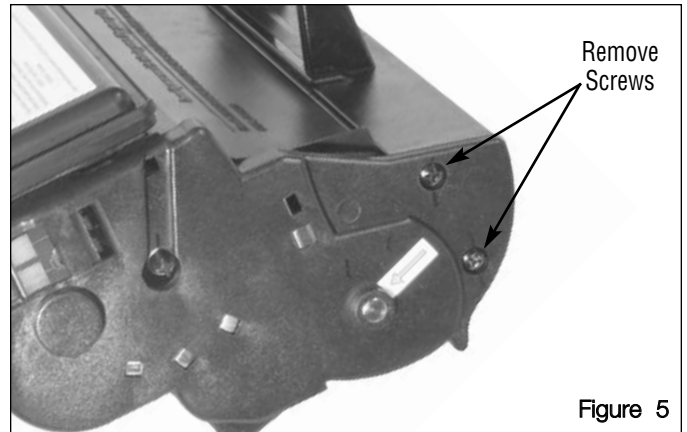

Figure 5
4. Remove the two Phillips screws from the Contact Side End Plate and Waste Bin, and detach the End Plate (Figure 5). The Contact End Plate, Waste Bin and Drum will fall away from the Hopper section (Figure 6).